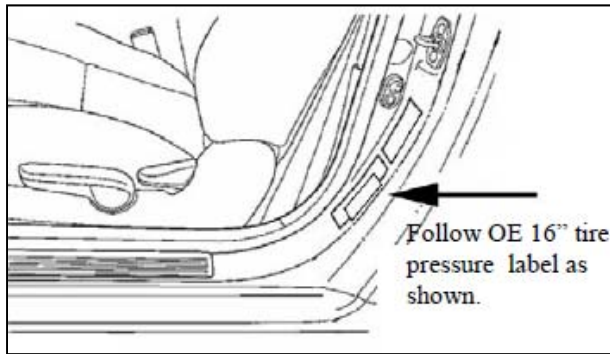

Figure 10
11. Tire Pressure Labels. These 16" wheels are designed to re-use the OE 16" tires 245/75R16. Be sure to use & follow the OE 16" Tire Pressure label, located on the driver's side doorjamb, for proper inflation pressure. See Figure 10.